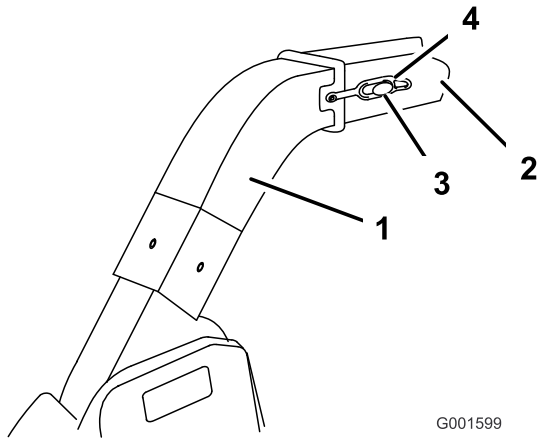

Figure 23
1. Unhook the rubber latch onto the knob (Figure 23).
2. Slide the lower end of the discharge tube out of the blower discharge extension opening (Figure 23). Pull the upper end of the discharge tube out of the bagger top.